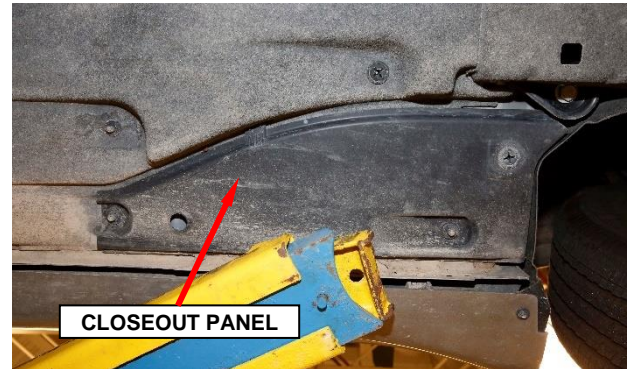

Figure 14 – Belly Pan Closeout Panel
2. Remove the fasteners then remove the left side closeout panel overlapping the charger belly pan (Figure 14).
36. Install the left side closeout panel overlapping the charger belly pan then install the closeout fasteners (Figure 14).